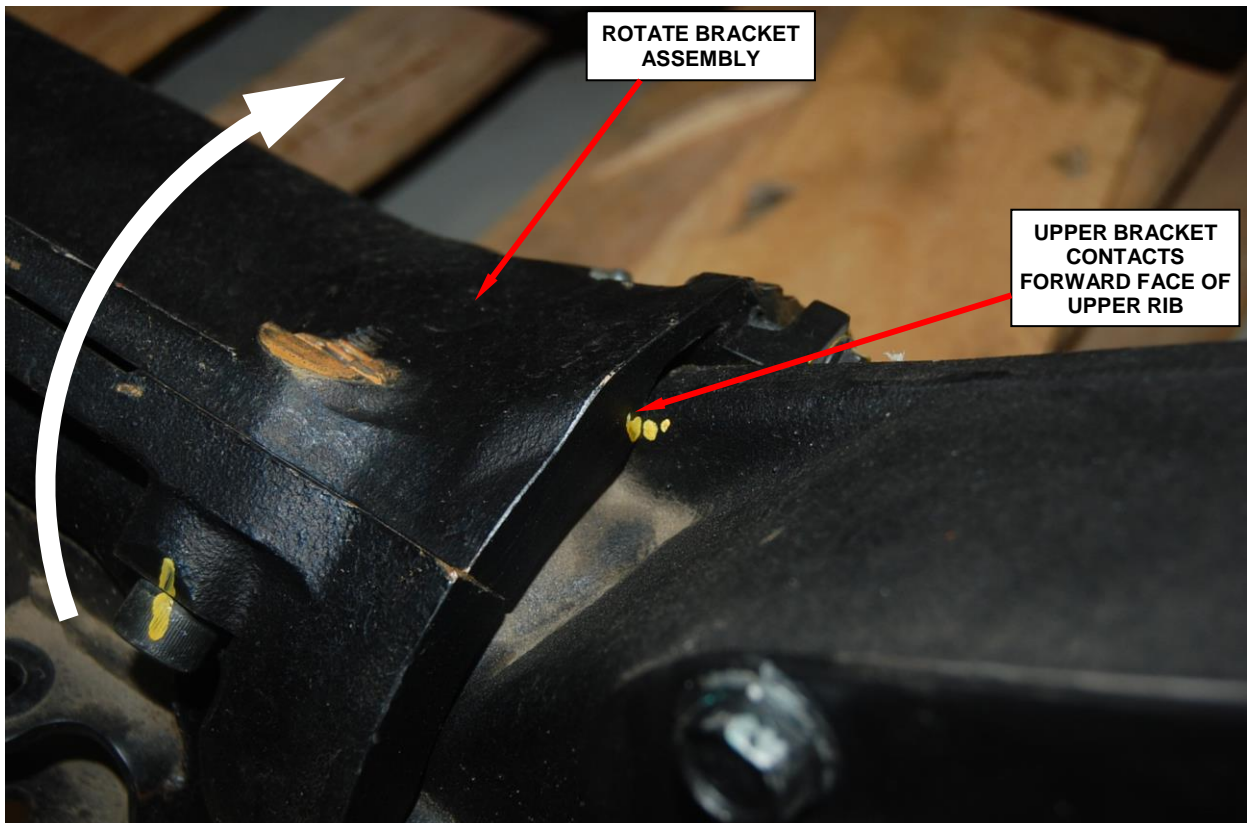

Figure 15 – Rotate Right Bracket Assembly
- h. Rotate the right bracket assembly until the upper forward face of the bracket is in contact with the differential housing rib (Figure 15). Snug up the upper wedge fastener hand tight.